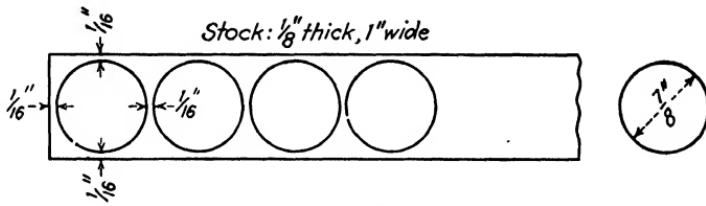

Fig. 298.—The steel strip is 36 in. long.
15. How many round pieces $\frac{7}{8}$ in. in diameter can be "punched" from a strip of steel 36 in. long, allowing $\frac{1}{16}$ in. between punchings (see Fig. 298)?
16. a. What is the weight of the unpunched strip in Fig. 298?